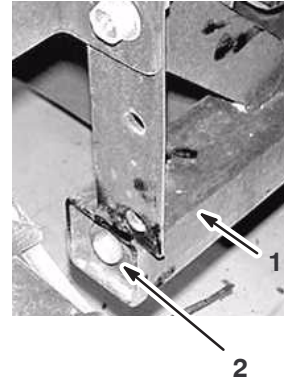

Figure 9
Note: If there is not enough clearance between the control valve and the tank, loosen the 2 bolts securing the boom frame to the vehicle and back the boom frame out until there is at least 3 inches of clearance between the control valve and the tank (Fig. 9).
3. Ensure that the control valve assembly and the tank are about 1 inch apart. If they are not, adjust the boom frame (Fig. 9).